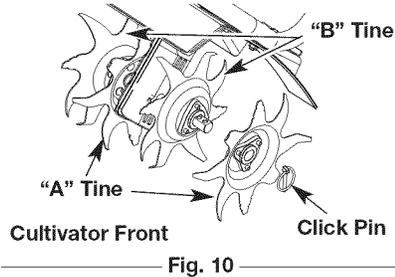

Fig. 10
- Remove the click pin from each end of the tine shaft. Slide the tines off of the shaft (Fig. 10).
- Using Figures 10 and 11 for reference, slide on the new tines with the **hubs facing outward**.